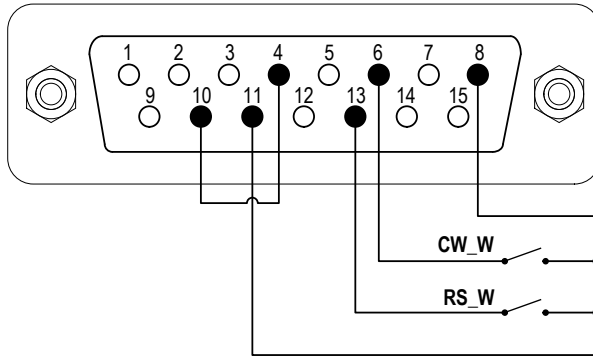

Figure 22. Logic Level 2 Control with Internal 12V Power Source
- 1) Switch the power off. Wire the DB15 connector as shown on Figure 22 or Figure 23, and connect it to the DB15 port on the rear of the pump.